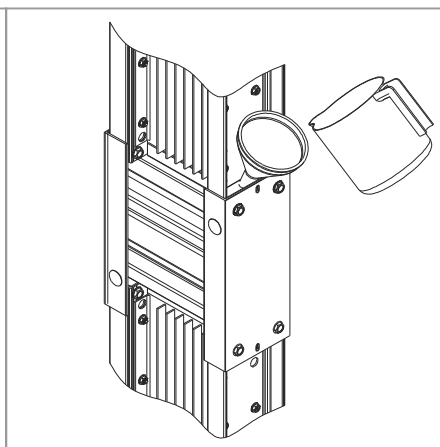

Figure 11.4
6. Place the liquid funnel into the hole as shown in Figure 11.4
7. Pour the mixed compound onto the area until full as shown in Figure 11.4. Complete cure time is in 8-12 hours @ 25°C or 1 hour @ 80°C.